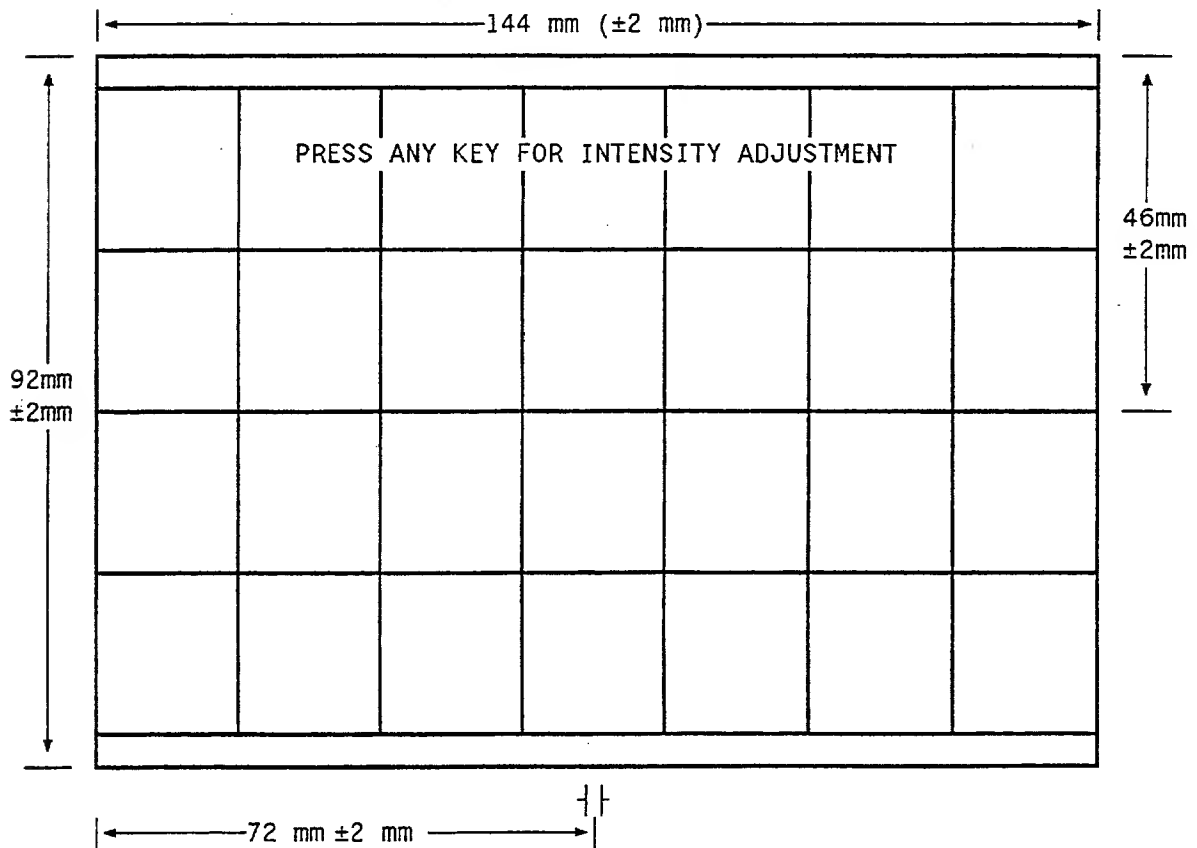

Figure 5-3. Display Size Test Pattern.
- e. Activate the Display Test Pattern as shown in figure 5-3 by pressing the < DISPLY > softkey on the Series 200 Controller.
- g. Adjust the HEIGHT and VERT PHASE (position) until the Test Pattern meets the vertical measurements in figure 5-3.
- i. Adjust HORIZ WIDTH until the Test pattern width is the same as the width shown in figure 5-3. Note that the pattern may no longer be centered within the edges of the CRT.